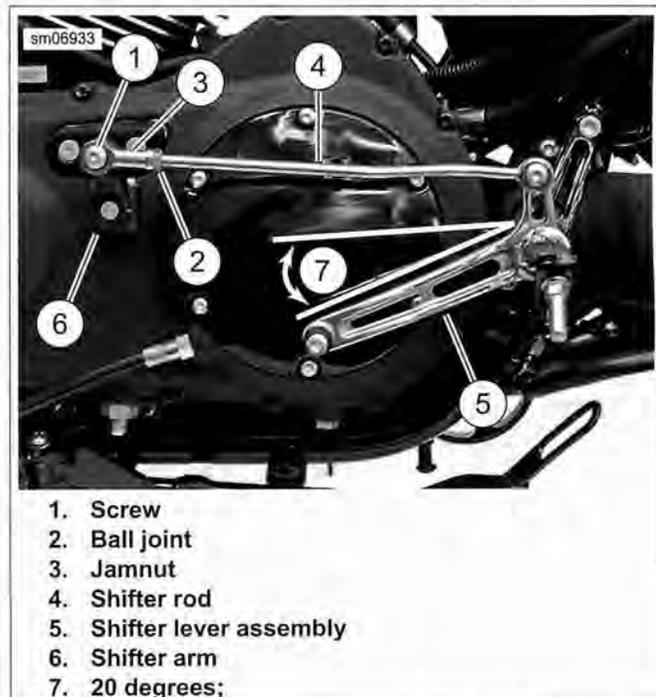

Figure 2-230. Adjusting Shift Pedal: XR 1200X
See Figure 2-230. Adjust shifter rod assembly (4) length until shifter lever assembly (5) is at approximately 20 degrees from horizontal as shown in the figure.
1. Loosen jamnut (3) on front end of shifter rod.
2. Remove screw (1) securing ball joint (2) to shifter arm (6).
4. When angle of shift lever assembly is at 20 degrees, install screw (1). Tighten to 120-180 in-lbs (13.6-20.4 Nm).